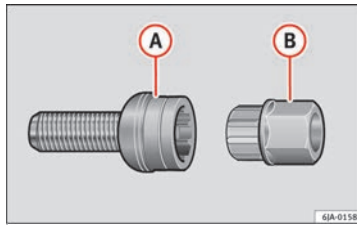

Fig. 61 Anti-theft wheel bolt with adapter.
- Insert the adapter (B) » **Fig. 61** with its toothed side as far as it will go on the interior toothing of the anti-theft wheel bolt (A) so that only the outer hexagonal is protruding.
- Fit the box spanner as far as it will go over adapter (B).